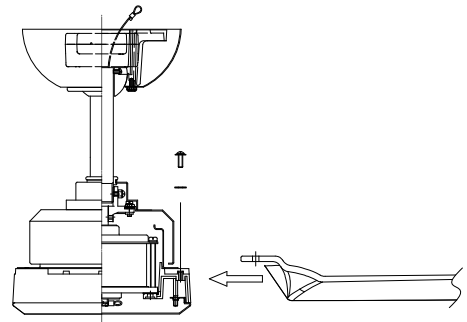

FIG.9
1. Place blade on motor as shown (**FIG.9**) and secure with the blade attachment screws and washers.